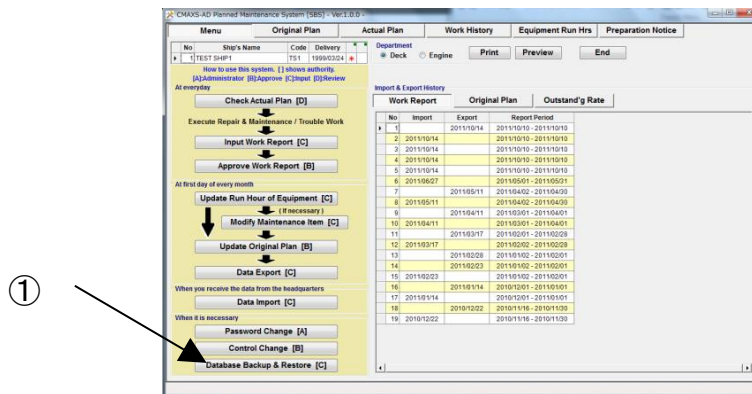

Fig.15-1 Menu Screen
- (1) Select [Database Backup & Restore] button on the "PMS Initial Screen" (Fig.15-1).